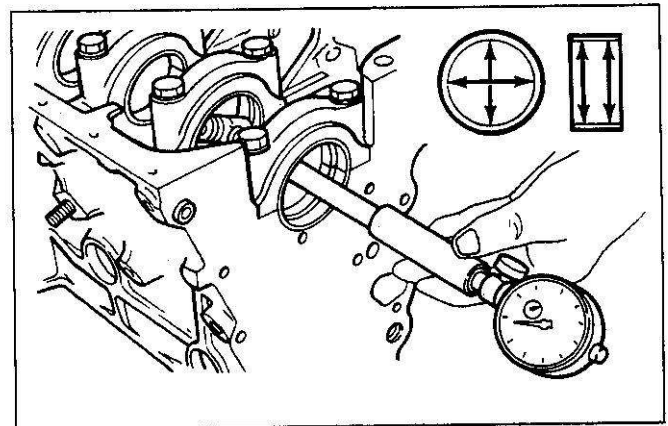
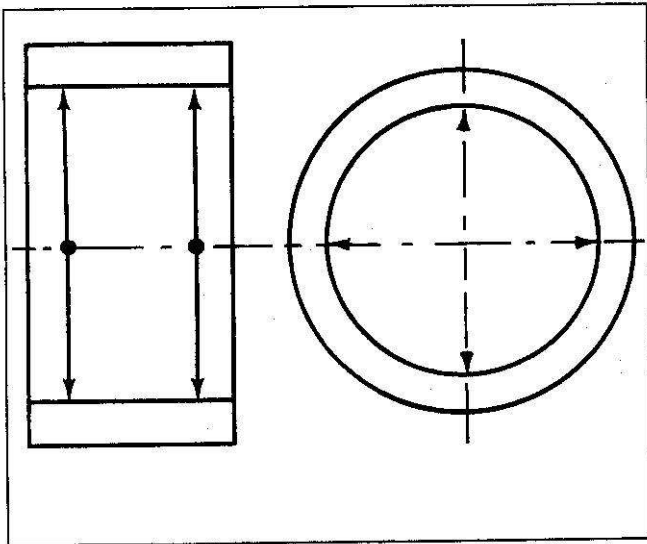

Figure 112. Measuring the Main Bearing's Inside Diameter
Figure 113. Main Bearing Checking Points
- Main bearing inside diameter, using an inside micrometer (figure 112). Check the bearing in two places and in the horizontal and vertical (figure 113). The nominal inside diameter is 80.0 mm (3.152 in).